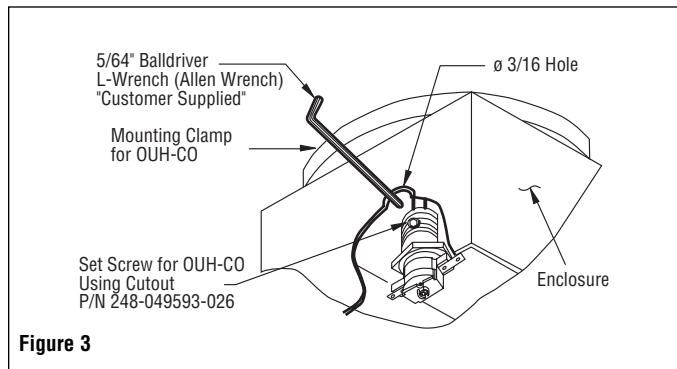

Figure 3
7. Push cutout into place. Be sure the thermal cutout is properly located and seated on the conductor rod. (See Figures 3 & 4).
8. Secure cutout to the conductor rod with set screw. (See Fig. 3).